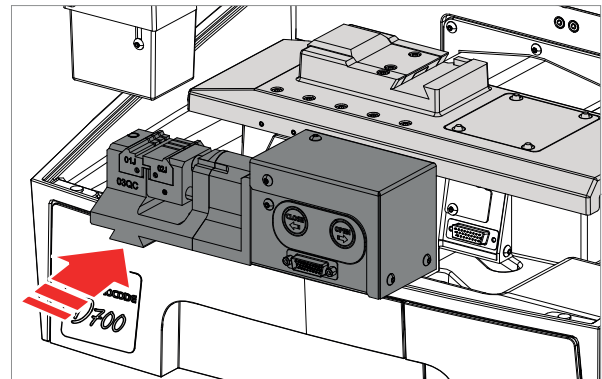
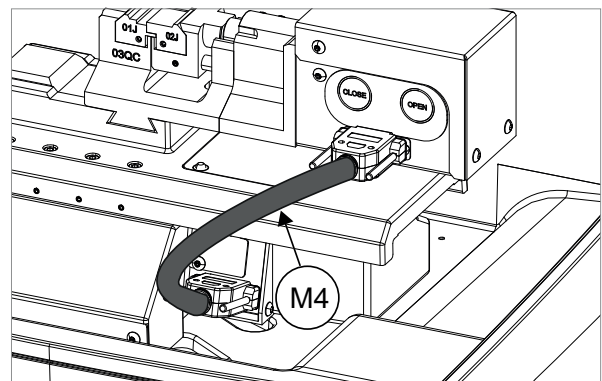

Fig. 78
Fig. 80
- 3) Insert the clamp unit into the dovetail guide (Fig. 78).
- 4) Tighten the grub screw (N).
- 5) Connect the clamp to the machine with the serial cable (M4) (Fig. 80).